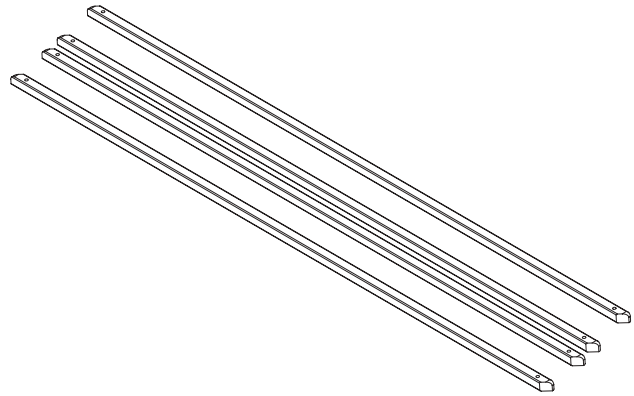

Figure 35
6. Place wear strips (**Figure 35**) in COP tank.